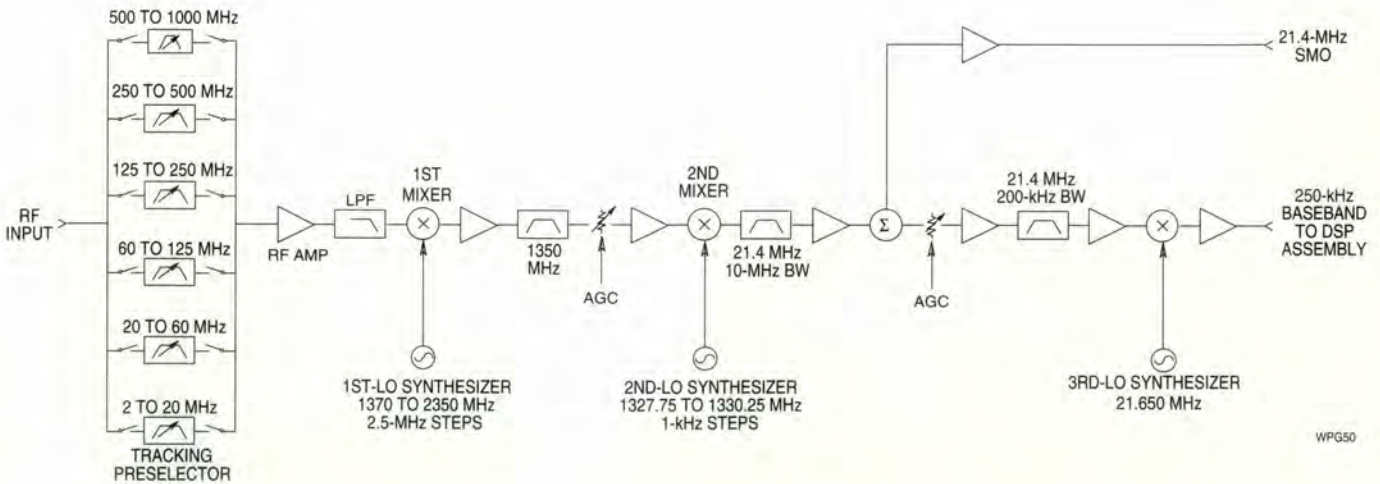

Figure 2. WJ-8611 RF Subsystem Functional Block Diagram
Figure 2 is a functional block diagram of the RF subsystem. A rear-panel type-N connector couples RF signals from the antenna to the input of the receiver. The RF bandwidth is limited by a two-pole tracking preselector. The filtered RF signal is passed to a low noise RF amplifier that provides excellent receiver sensitivity. After the signal is amplified, it passes through a lowpass filter that provides image rejection for the first mixer. The first local oscillator (LO) tunes from 1370 to 2350 MHz in 2.5-MHz steps and provides conversion of the signal to the first IF, which is centered at 1350 MHz. A low noise amplifier follows the first mixer, providing sufficient gain to overcome the losses of the first mixer and first IF filter. The output of the first IF amplifier passes through the first IF filter, which provides image rejection for the second mixer. The second mixer combines the first IF signal with the second LO, which tunes from 1327.75 to 1330.25 in 1-kHz steps. The second LO is a three-loop design providing fine frequency resolution, as well as low phase noise and fast tuning.